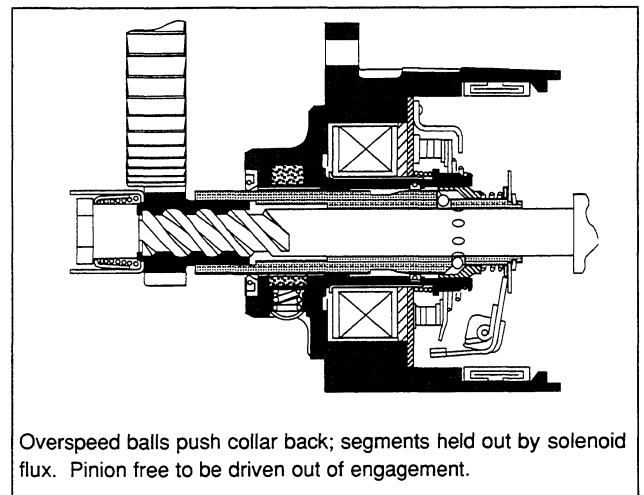

Fig. 5 Overspeed Position
1.2.4 Overspeed position (see fig. 5)